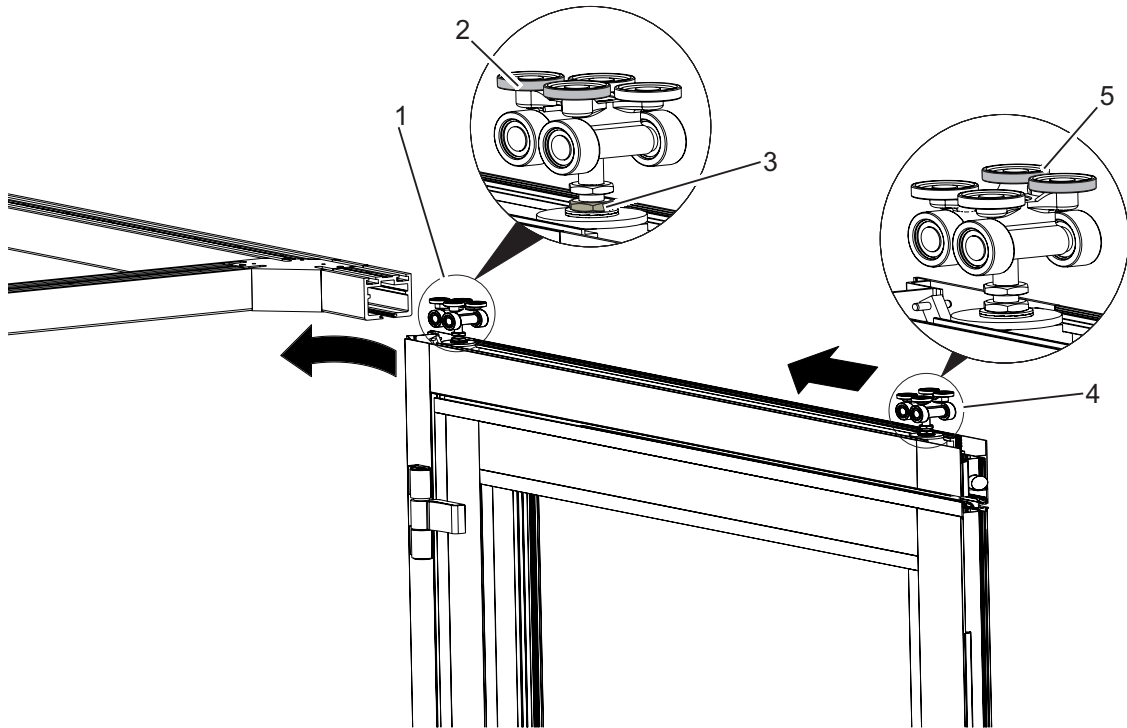
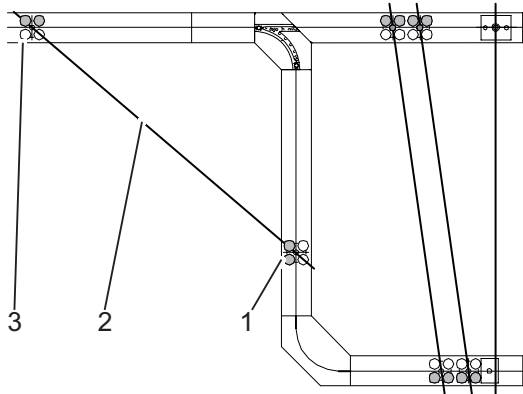

Fig. 19: Adjusting the running direction of the rollers.
Fig. 20: Example for a stacking arrangement (top view)
3. Mount the panel (Fig. 20/2) in the specified order (see separately supplied system drawing) with the roller into the tracks. Start with the panel that is parked first in the stacking area.
The higher lying rollers define the running direction. In the exemplary Fig. 19 and Fig. 20, the front roller (Fig. 19/1 and Fig. 20/1) runs into the branch. The higher lying rollers (Fig. 19/2) are on the inner track side. In case of the rear roller (Fig. 19/4 and Fig. 20/3), the rollers (Fig. 19/5) are on the inner side of the track. The roller runs straight in the stacking area.